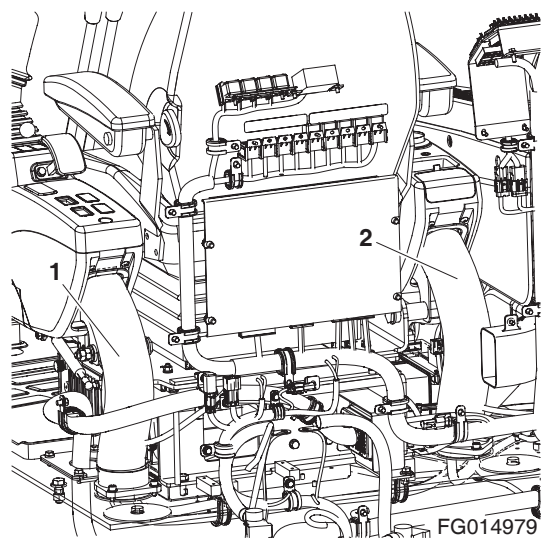

Figure 4
15. Remove joystick hose cover (1 and 2, Figure 4) and disconnect left / right control stand wiring harness connected inside them.